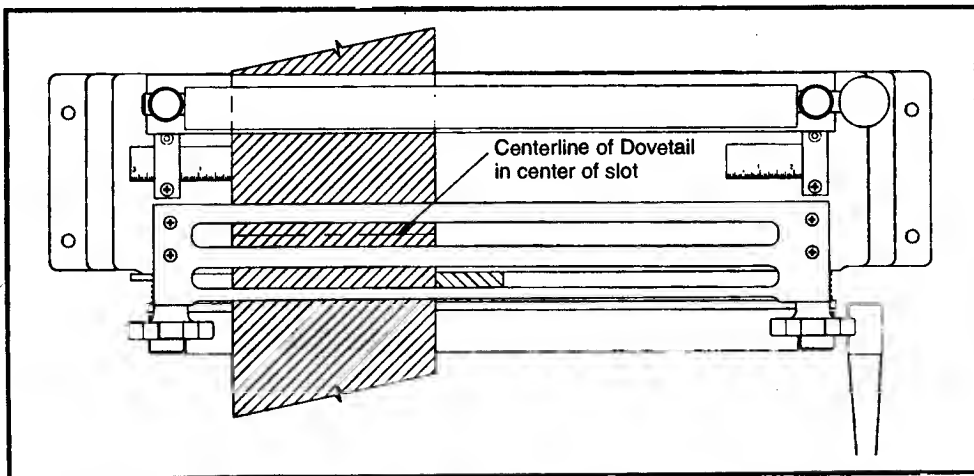

Fig. 49
5. Reposition female board so that center of dovetail will be in center of female slot in templet, (Fig. 49) and secure in place.